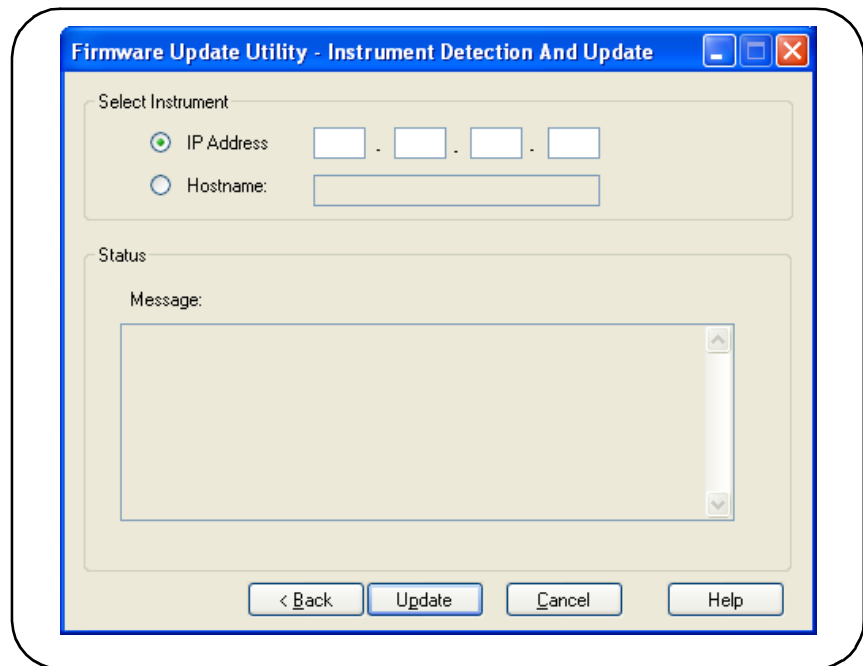

Figure 2-11. Specifying the Address or Host Name.
3. Enter the counter's IP address or host name (Figure 2-11). Select 'Update' to start the update process.